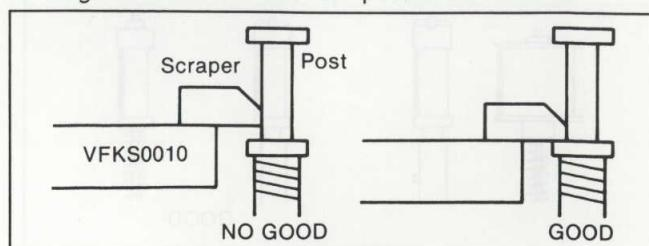

Figure M5
- Place the side of the scraper against the each post as shown in Figure M5, then slowly raise the post until the reading of the Reel Table Height Gauge becomes the Post Adjustment Plate's height.